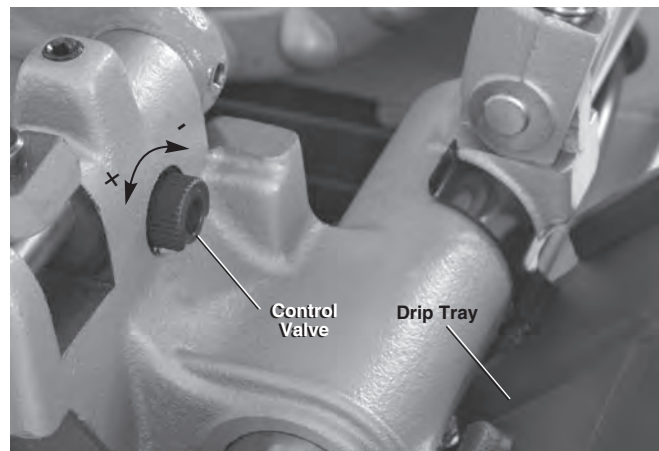

Figure 5 – Adjusting Oil Flow
10. Check the level of RIDGID Thread Cutting Oil. Remove the chip tray and oil pan liner; see that the filter screen assembly is fully submerged in oil. See *Oil System Maintenance*. If the machine is equipped with the drip tray, make sure it properly placed to direct oil dripping off the die head into the chip tray (see *Figure 5*).
- Place die head in the use position. Move the switch to the FWD position. Check for oil flow through the die head. Move the switch to the OFF position. The oil flow can be adjusted with the control valve on carriage (*Figure 5*). Clockwise rotation decreases flow and counterclockwise increases flow. Do not adjust while the machine is running.